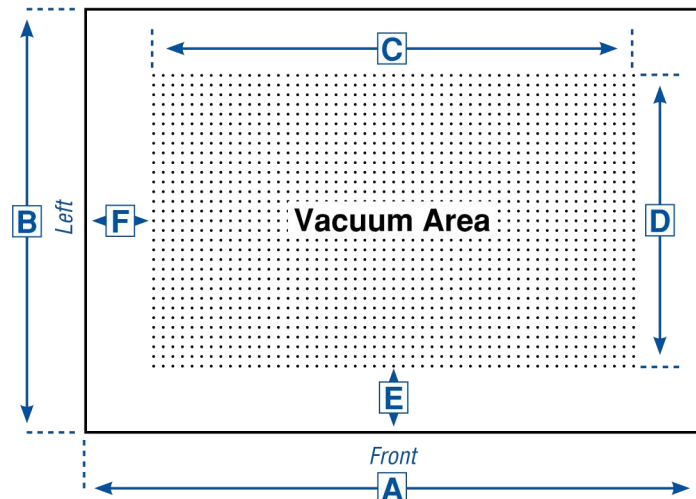

Figure 1. Top view of vacuum table.
1. Enter your table's specifications below using Figures 1, 2 and 3 or 4.
Note For tables requiring **cutouts** for grippers, please indicate on Figure 1 the approximate placement of all cutouts (see item J in the next column for additional information you will need to complete).
If your application requires disappearing guides and/or sliding (lift) pins, indicate their approximate locations in Figure 1 on previous page. Use G1, G2, G3, etc. for the guides and P1, P2, P3, etc. for the lift pins. Use the table below for precise placement: